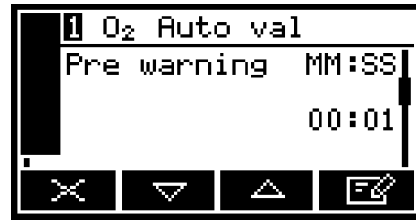

Figure 37 – The auto val/cal pre-warning timer screen
3. If you changed the pre-warning setting from 'Off' to 'On', the Auto val/cal pre-warning timer screen will then be displayed (see Figure 37). Edit the displayed time as described in Section 4.10.